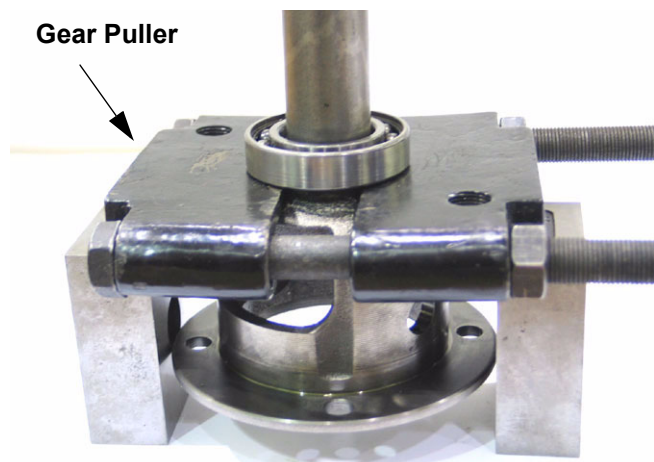

Figure 13.13
13.13. If it is necessary to remove the bearing, use a bearing puller. See Figure 13.13.